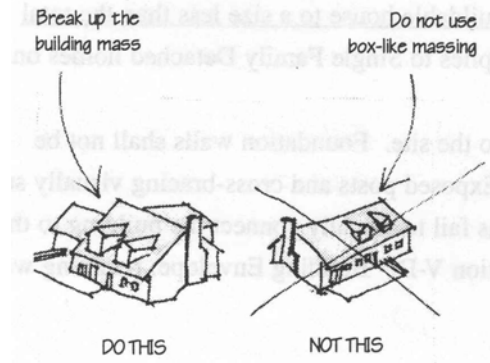

Figure 10
**Roof Forms:** The mass of a roof should be broken into planes and smaller elements to visually reduce the scale (see Figure 10). Roof heights and ridge lines should vary between adjacent home sites. Generally, a
Masonry (stone) should support wood or stucco. Where sites slope (more common than not), buildings should step down the incline and "anchor" the homes to their sites, creating a natural relationship between the structure and the natural topography (see Figures 10 and 11).